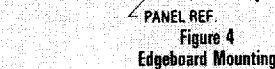

Figure 4
(see Figure 4)
3. Figure 4 is for edgeboard mounting bracket or edgeboard clip assembly. The .184 ± .002 (2.67 ± 0.05) dimension locates the MD socket insulator flush with the end of the board.